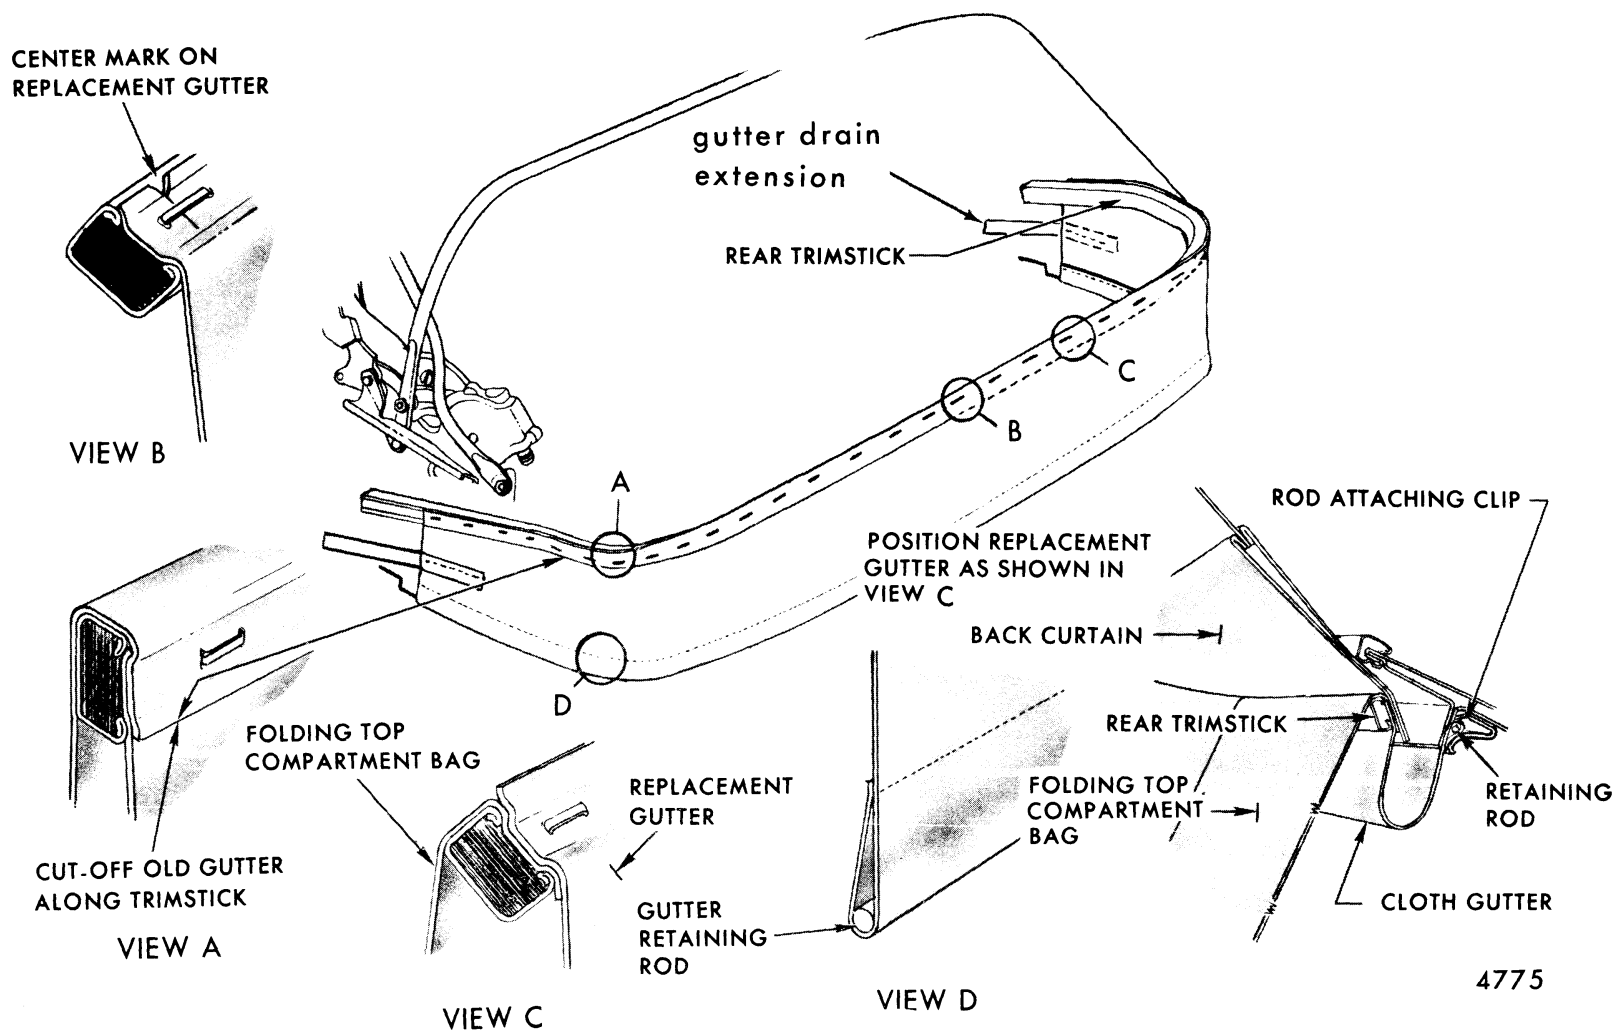

Fig. 8-63-Inward Folding Top Gutter Attachment
- D. Secure gutter retaining rod to five (5) clips on body (Fig. 8-63). Clips are located as follows: One clip on each side of each rear compartment lid hinge and one clip at rear center.
The inward folding top rear gutter is constructed of convertible top trim material. The front of the gutter secures to the rear trimstick. The rear of the gutter secures to the body by means of a retaining rod and five (5) attaching clips (Fig. 8-63). The clips are located as follows: One clip on each side of each rear compartment lid hinge, and one clip at the rear center.
2. Remove original gutter by cutting along rear trimstick. Use care during original gutter removal not to cut folding top compartment bag (Fig. 8-63).
4. Transfer retaining rod from original to replacement gutter as shown in Figure 8-63. This operation can be done after securing gutter to trimstick.
5. Position center of replacement gutter over folding top compartment bag on center of trimstick and staple or tack in place (View "C", Fig. 8-63). Start at center and work to each side. Space staples or tacks about four (4) inches apart.